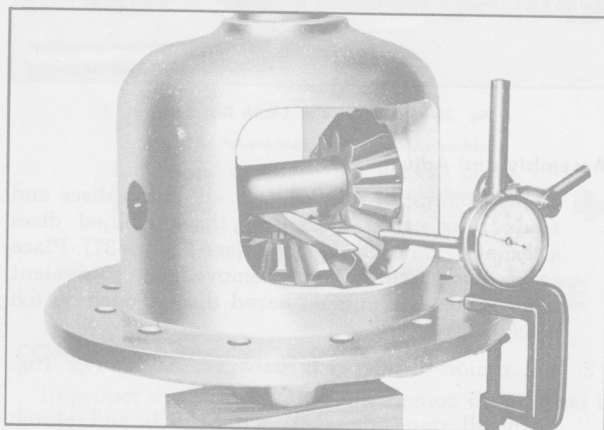

Fig. 38—Gauging Pinion-to-Side Gear Backlash
2. Set pinion-to-side gear backlash as follows (fig. 38).
- c. Install micrometer with button against gear tooth as shown in Figure 38 and check backlash.